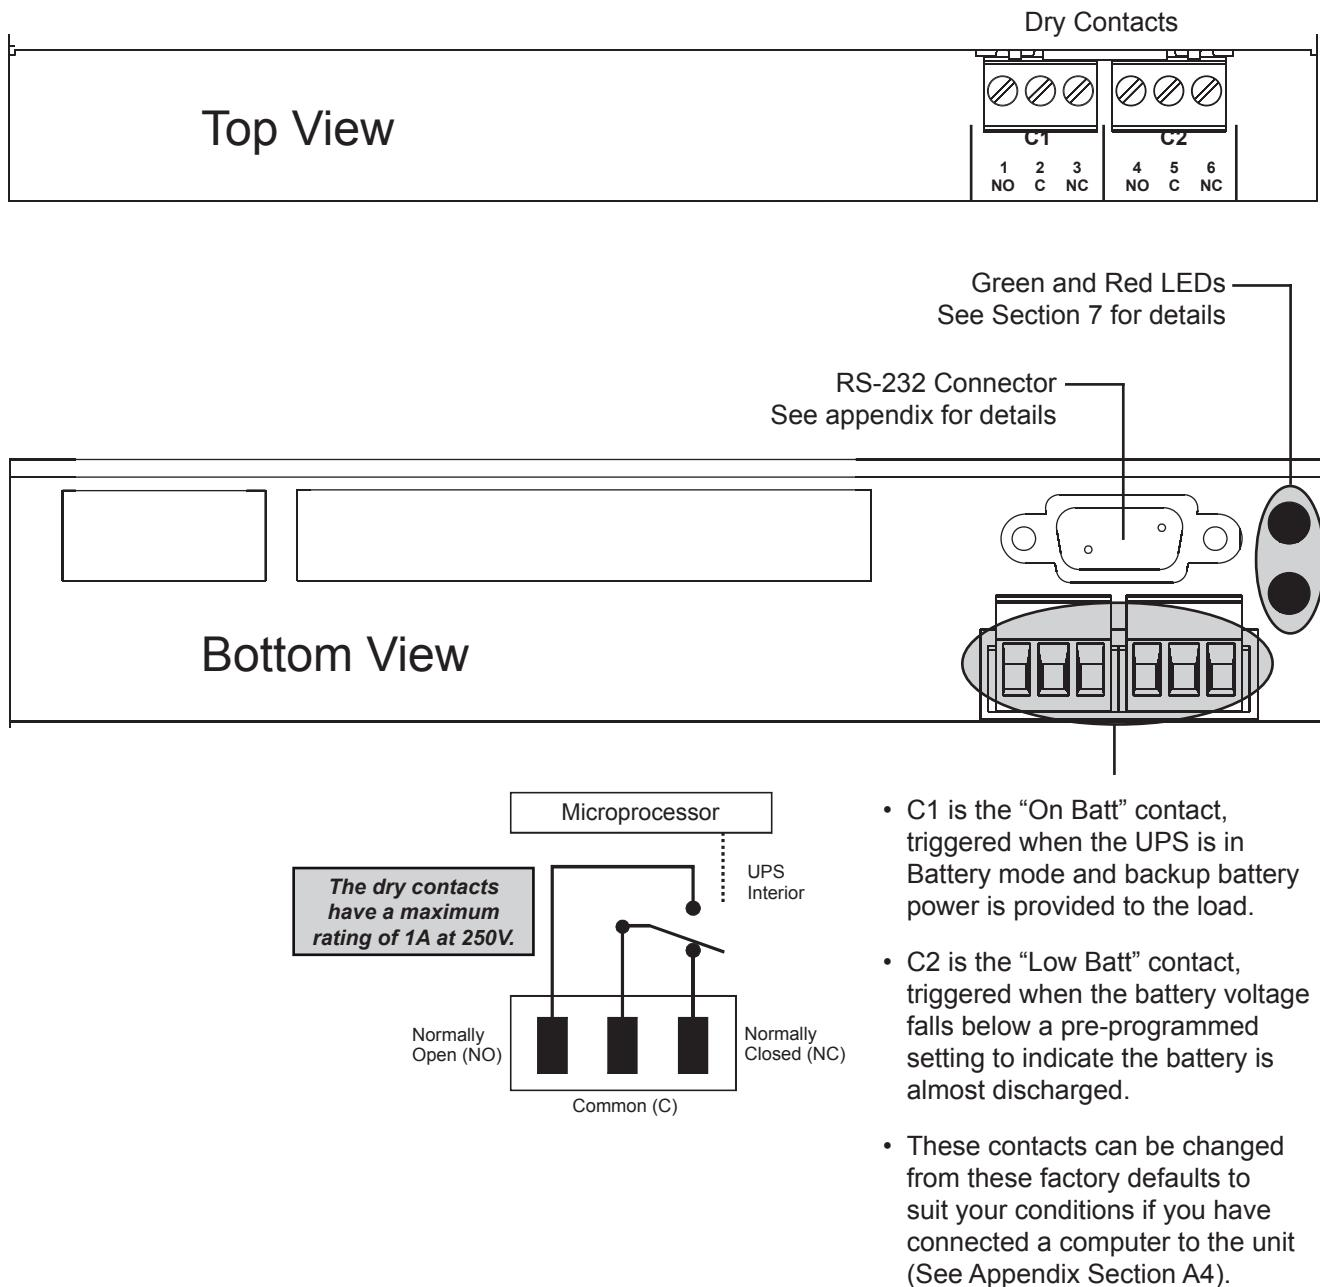

Figure 3.3
2. On the surveillance version, if used, connect the dry contact terminal blocks and the RS-232 or Ethernet connectors (Also see the Appendix) according to Figure 3.3.